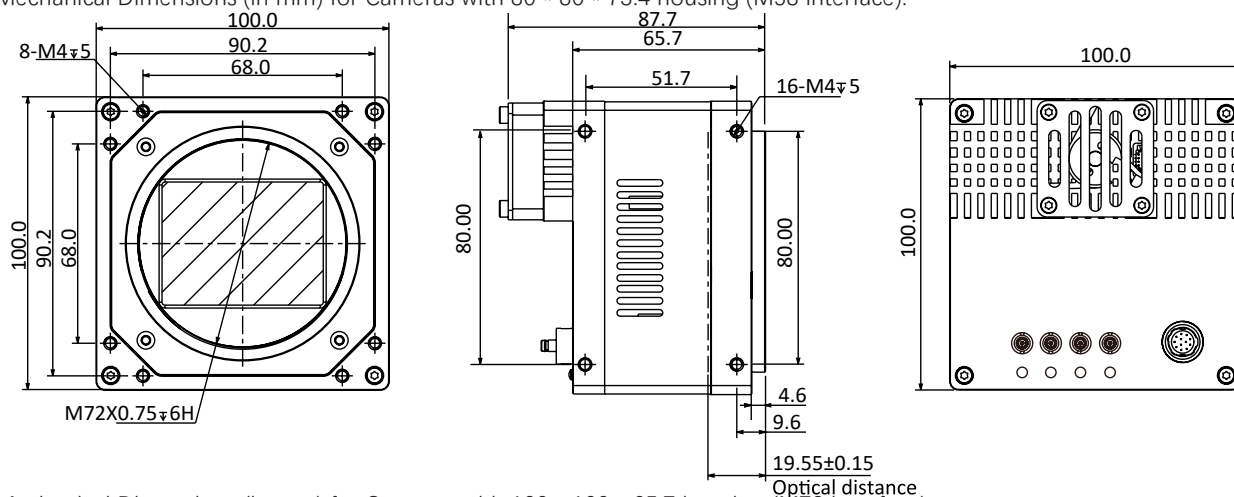

Fig. 1-11: Mechanical Dimensions (in mm) for Cameras with 100 * 100 * 65.7 housing (M72 interface).
- Fig. 1-11: Mechanical Dimensions (in mm) for Cameras with $100 \times 100 \times 65.7$ housing (M72 interface).